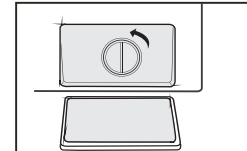

Fig 27
2. Turn the filter down as shown with the figure and take out sundries matters (Fig27).